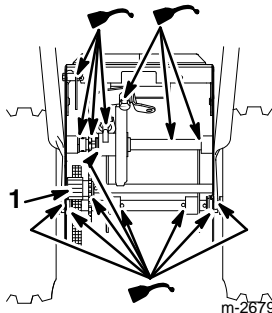

Figure 31
- Lightly lubricate the snowthrower with light oil as shown in Figures 31 and 32.
- Lightly grease the axle gear (Fig. 31).